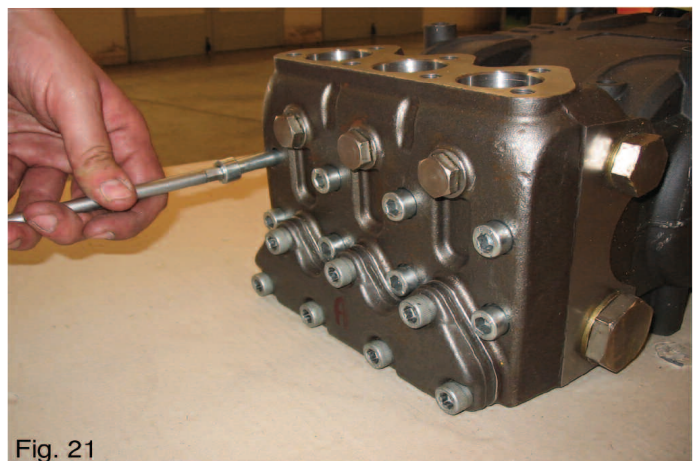

Fig. 21
- A) Remove the fluid end by loosening the 8 bolts (see Fig 21).